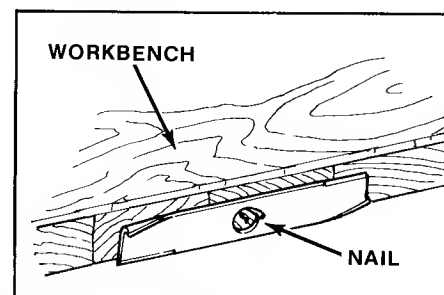

Figure 18. Balancing Blade
6. Check and balance blade. Use a balancing machine or the fixture shown in figure 18. Center the blade on a nail lubricated with a drop of oil. A balanced blade will remain level. File material off heavier end of blade until it is balanced.